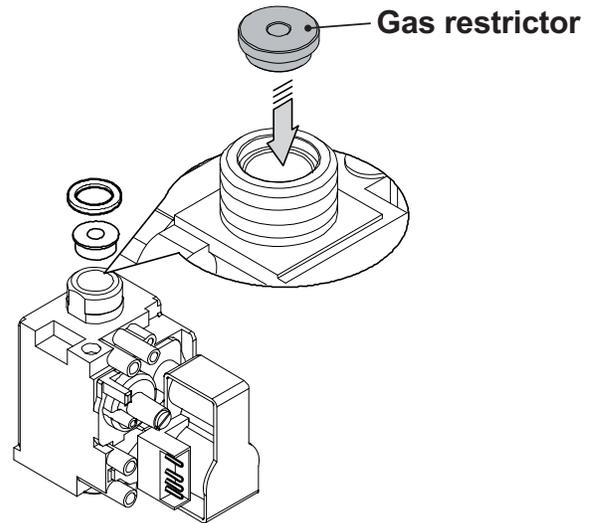

Fig. 8.2
- Carry out gas conversion by correctly replacing the gas restrictor (Fig. 8.2), referring to the "Technical Data" section pag. 32 (Activ A Plus 25C), pag. 35 (Activ A Plus 30C) and pag. 38 (Activ A Plus 35C).